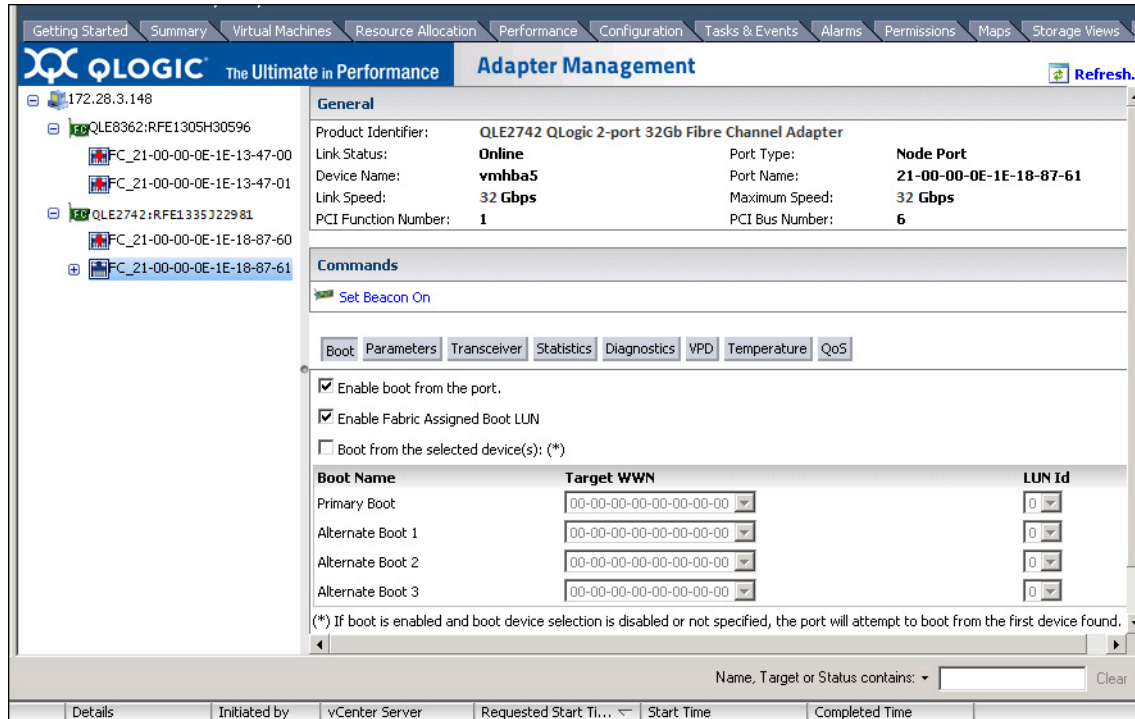

Figure 3-8. Fabric-Assigned Boot LUN in QConvergeConsole Plug-in for VMware vCenter Server
- On the Boot page, select the **Enable Fabric Assigned Boot LUN** check box. Figure 3-8 shows an example.